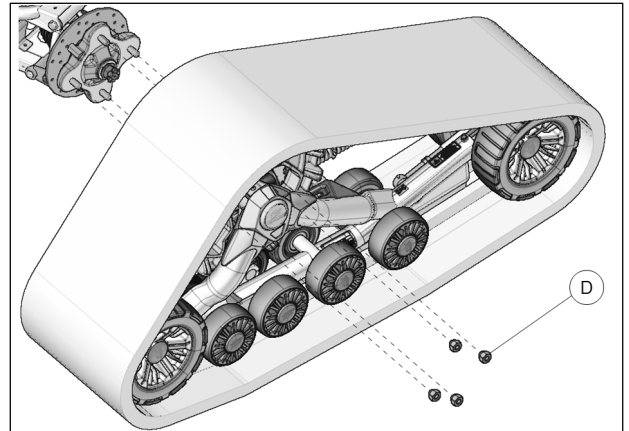

Fig. 8
- Secure undercarriage to rear hub using the provided lug nuts (D). See Fig. 8
- Using the lug nuts (**D**) provided, secure undercarriages to front wheel hubs. The procedure and precautions are the same as for rear units. Refer to Fig. 8